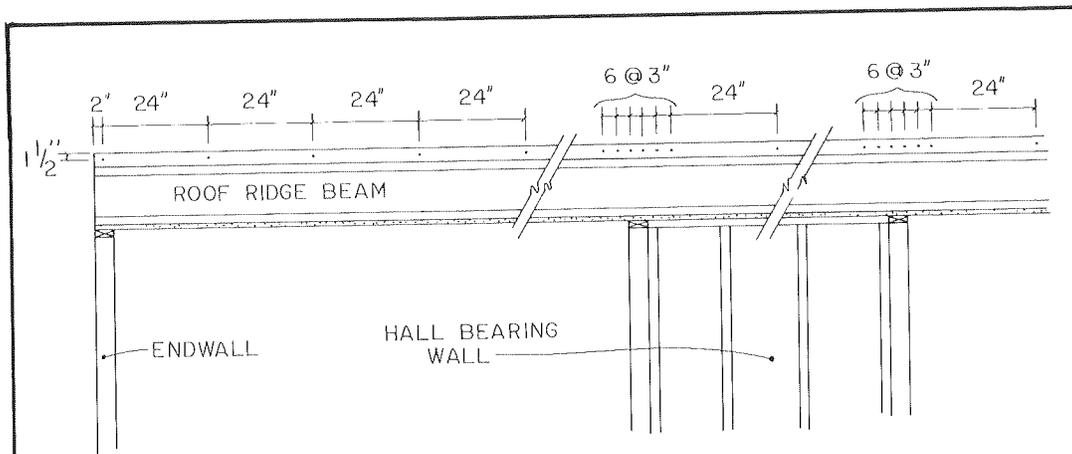

FIG. 19
5. Level ceiling edges by jacking at the inside main "I"-beam on light half of the home; when the ceiling joint is flush, complete the bolting operation using the ¾" x 4" bolts at 24 inches on center with 6 bolts at 3 inches on center over beam supports (See Fig. 19).
NOTE: WHERE OVER-THE-ROOF STRAPS ARE PROVIDED, SECURE THE STRAPS AT THE RIDGE BEAM WITH THE PROVIDED ¼" x 4" HEX HEAD BOLTS (SEE FIG. 21). THESE STRAP BOLTS ARE IN ADDITION TO THE BOLTING DETAILED IN FIG. 19.